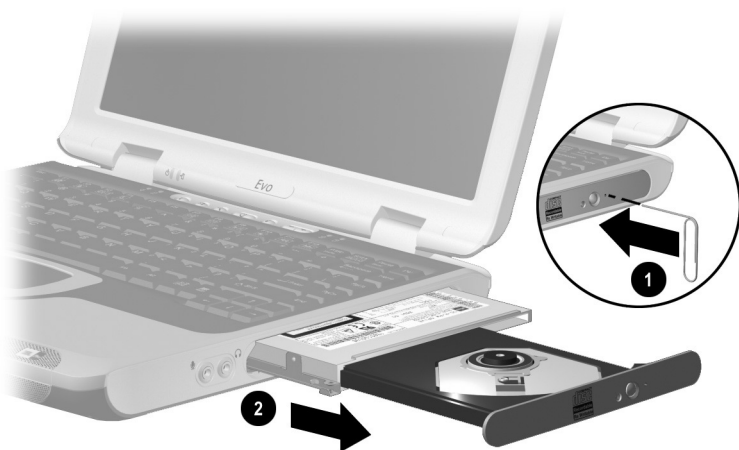

Figure 5-14. Removing the Optical Drive
5. Insert a paper clip or similar thin metal rod into the manual release hole on the front bezel of the optical drive ❶ (Figure 5-14). Press firmly.
6. Grasp the drive bezel and slide the drive out of the optical drive bay ❷.